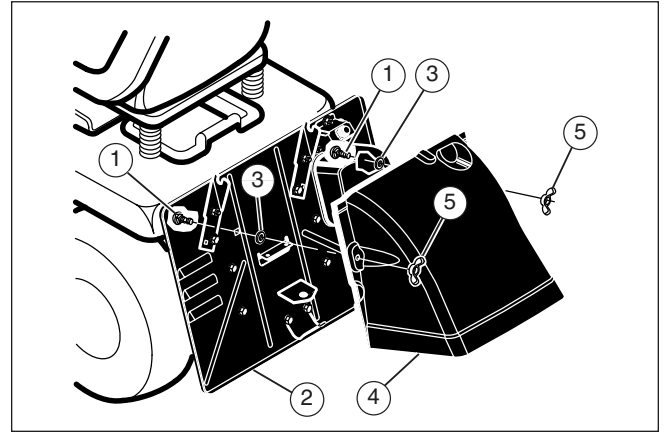

Figure 11
1. Mount the carriage bolts (1) in the square holes of the rear plate (2) (see **Figure 11**).
2. Attach the retainers (3) to the carriage bolts (1). The retainers (3) will hold the carriage bolts (1) in place.
3. Assemble the rear deflector (4) to the rear plate (2) with the wing nuts (5).